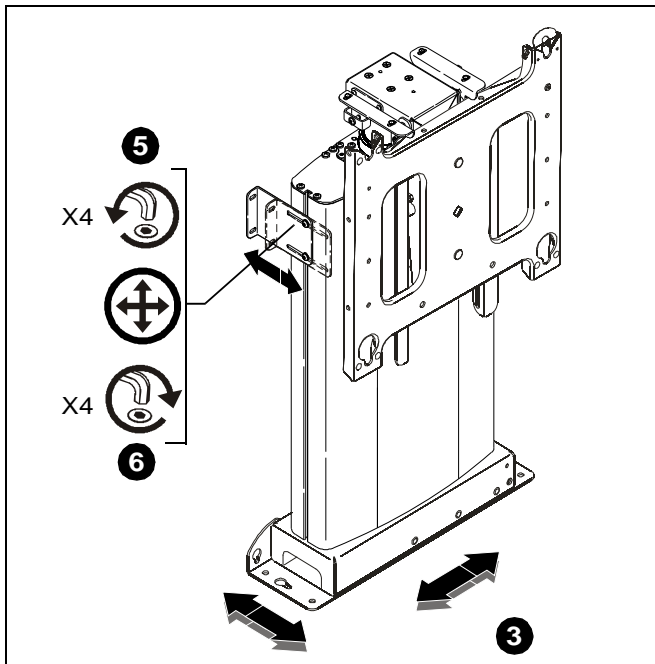

Figure 23
4. Position mount until base is properly positioned and side mounting brackets are in line with vertical supports. (See figure 23)